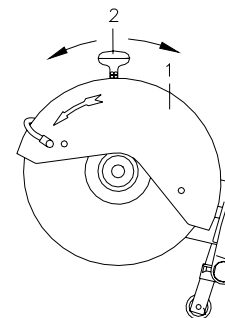

Fig. 10
3. Adjusting blade guard (Ref. Fig.10):